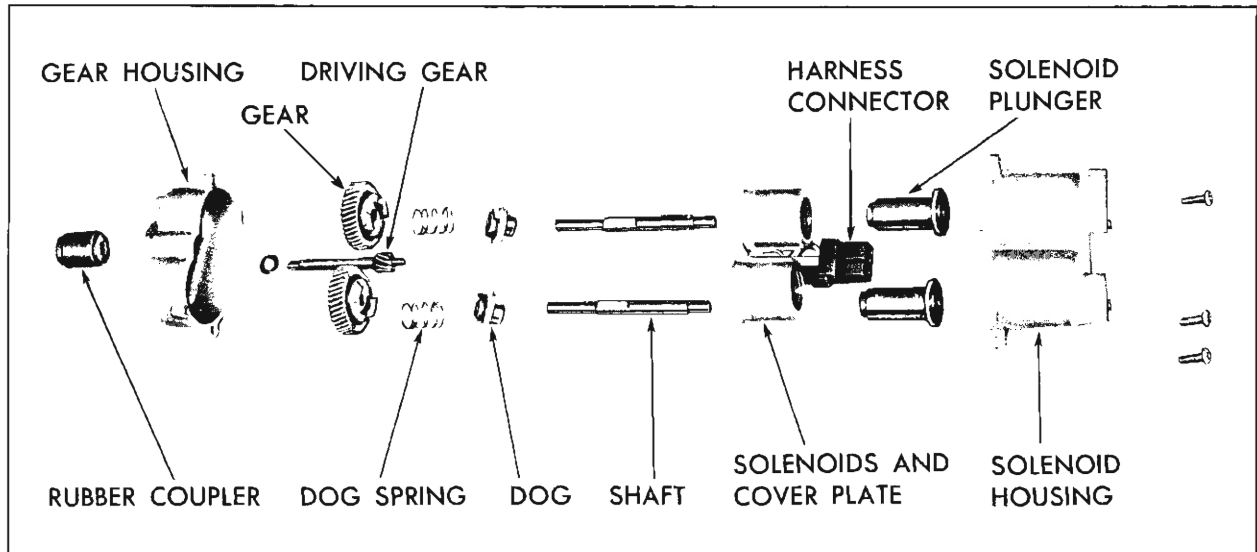

Fig. 22-8 4-Way Seat Transmission
2. Remove screws securing gear and solenoid housings together; then, carefully separate housings and remove component parts of transmission assembly (Fig. 22-8).